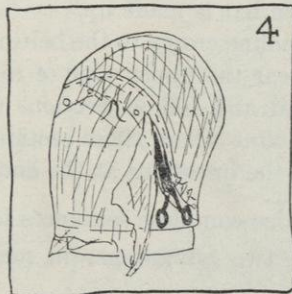

FIG. 4.
- d. Cut the maline off just below the stitches where it is sewed to the ribbon (see Figure 4).
- e. Put a white tie tack in the belting ribbon to mark the direct front (see Figure 4). Tie this stitch so that it cannot come out.
- Slip a whalebone pusher carefully under the ribbon, between the maline and the block, until the crown is sufficiently loose to come off easily (see Job 39, Figure 4 *B*, page 156).